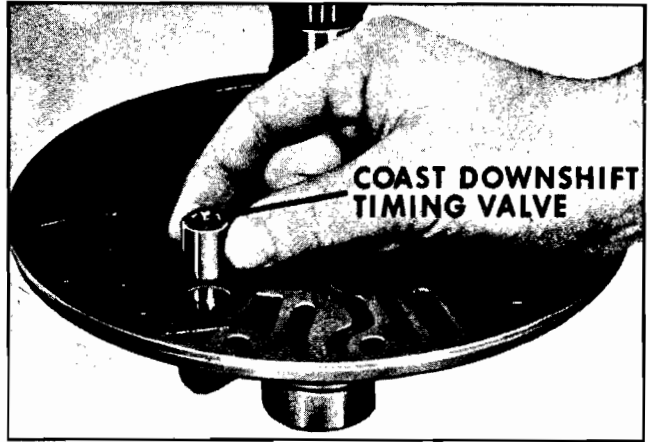

Fig. 7F-77 Removing Timing Valve
10. Remove oil pump seal with a small pry bar and discard seal (Fig. 7F-80).